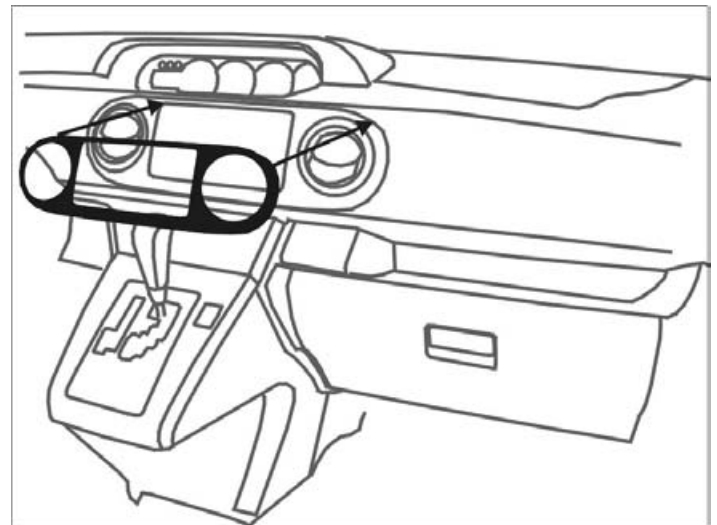

Fig. 3-1
- ⚠ (1) Align part uniformly to edge of factory component. **Note: inside surface of IP piece has sticker indicating top side. Installation must be right-side-up, or large gap will appear along top edge.** (Fig. 3-1)
- (2) Gently touch part into position.
- (3) Edge of appliqué should be flush to edge of factory component, +/- 1.0mm.
- (4) Once positioned, press part firmly into place by applying finger pressure. Pressure is required for adequate bond to factory component.